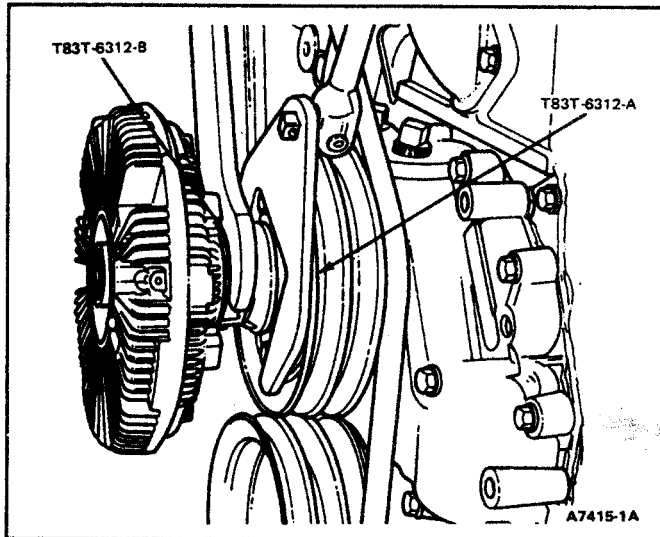

FIG. 28 Removing Fan and Clutch Assembly
- CAUTION: Left hand thread: Remove by turning nut clockwise (Fig. 28).**